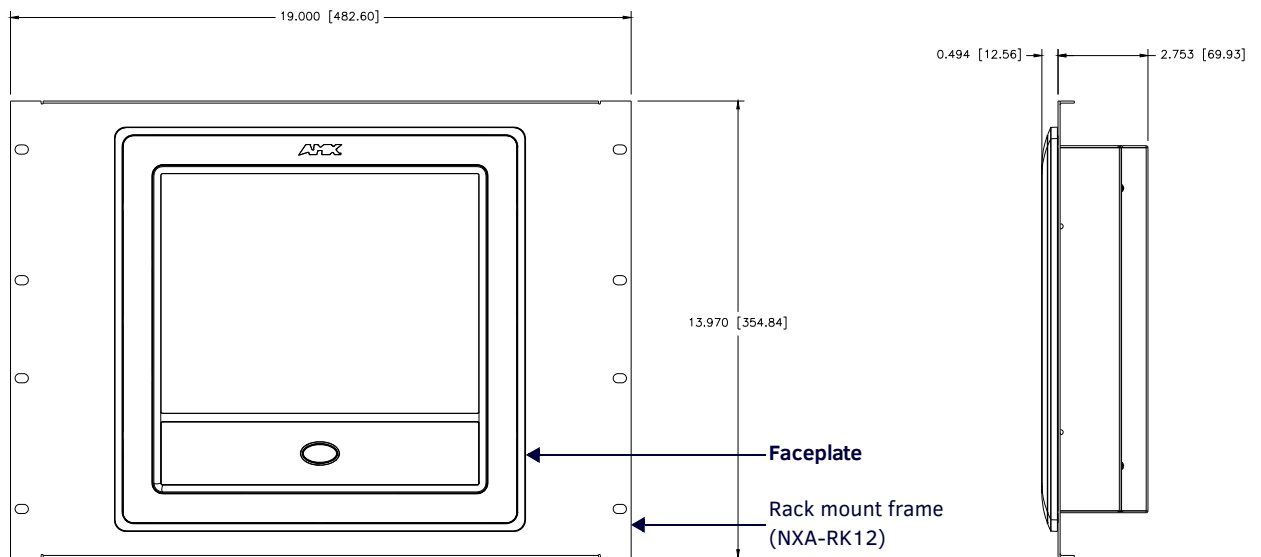
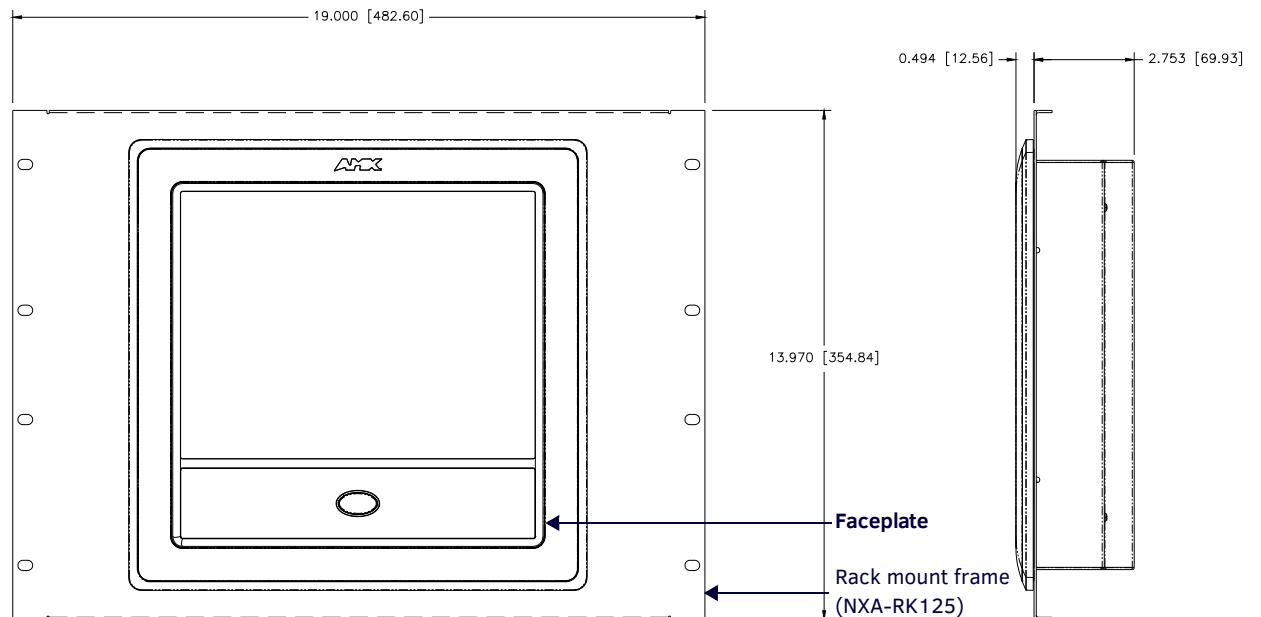

FIG. 46 NXD 12 inch Wall Mount panel installed into an NXA-RK12 Rack Mount Kit
FIG. 47 NXD 15 inch Wall Mount panel installed into an NXA-RK15 Rack Mount Kit
6. Insert the main 12-inch Modero unit into an NXA-RK12 (FIG. 46) or the 15-inch Modero into an NXA-RK15 (FIG. 47).